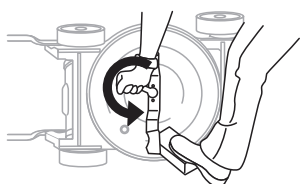

Fig.14A
- Remove the hex bolt and washer which hold the blade and blade adapter to the engine crankshaft. Remove the blade and adapter from the crankshaft. (Fig.14A)